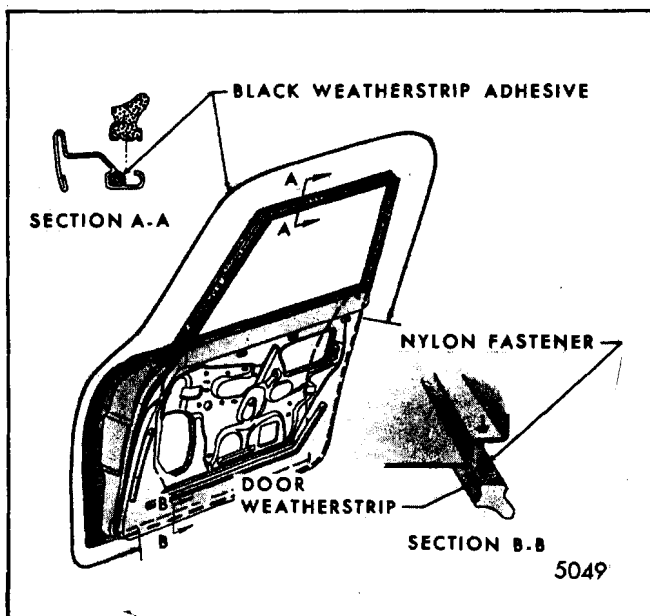
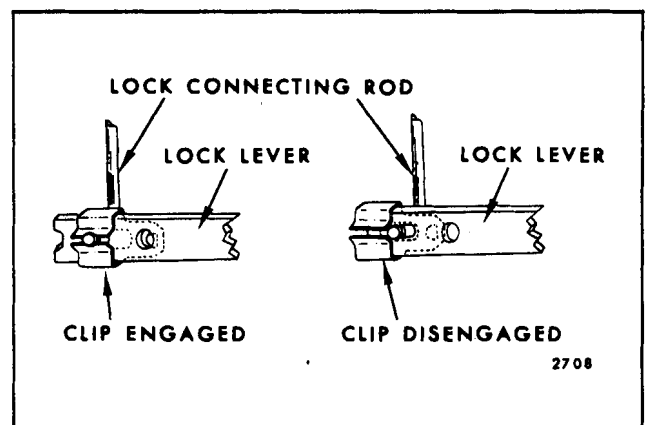

Fig. 6-2-Door Weatherstrip - All Styles
Fig. 6-4-Weatherstrip Removal Tool
On closed styles, nylon fasteners are used below the beltline only. Weatherstrip adhesive retains the weatherstrip around the door upper frame (Fig. 6-2).
2. Use a flat-bladed tool to break cement bond between door and weatherstrip. A tool applicable to this usage can be fabricated from tool J-21104 or equivalent (Fig. 6-4). On all styles, weatherstrip adhesive is used for a distance of 9" on door lock pillar and the entire length of the front door hinge pillar (Fig. 6-2). In addition, on closed styles, weatherstrip is retained by weatherstrip
adhesive completely around door upper frame (Fig. 6-2).
3. On closed styles, apply black weatherstrip adhesive around door upper frame (Fig. 6-2).
3. Using a flat-bladed tool such as a putty knife, or side roof rail weatherstrip removal tool as described in Fig. 6-4, carefully break sealer bond between water deflector and door inner panel down both sides of deflector. Make certain tool blade is between inner panel and string that is embedded in sealer.